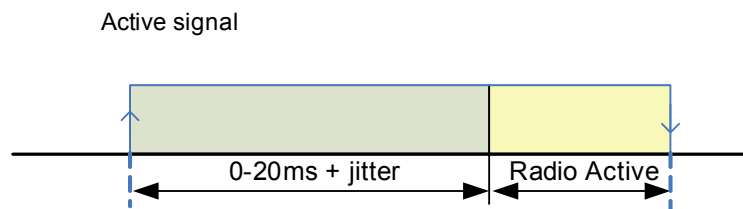

Figure 14. Active signal
- As a trigger for the application controller to do any activity before the radio becomes active. See Figure 14.
Its polarity can be configured active high or active low. When the active signal is asserted, nRF8001 will drain peak currents as described in chapter 13 on page 39. The active signal can be configured to assert up to 20 ms before the nRF8001 radio is switched on, see Figure 14. Jitter on this signal is  $\pm 312.5 \mu\text{s}$  and the signal may occur early by up to 0.1% of the interval length, as a result of a 32.768 kHz oscillator drift.